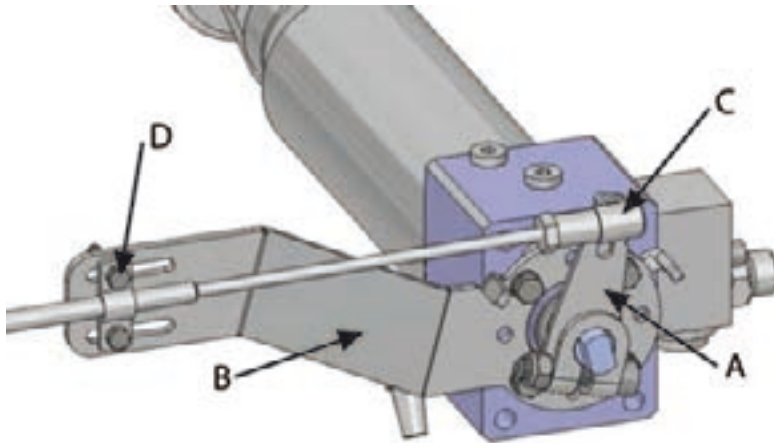

Figure 40. Hydraulic cylinder
The control cylinder of the reversing deflector is used with the lever (figure 40, point A) that is at the end of the cylinder. The lever has a cable terminal when it is delivered from the factory. However, the cable's inlet direction can be different than the standard direction of the cable support (figure 40, point B). You can turn the cable support plate to point in the desired direction in accordance with the cable's inlet direction.
1. If the control cable is attached, detach the end of the cable (figure 40, point C) from the cylinder's operating lever and detach the cable fastener from the support plate (figure 40, point D).